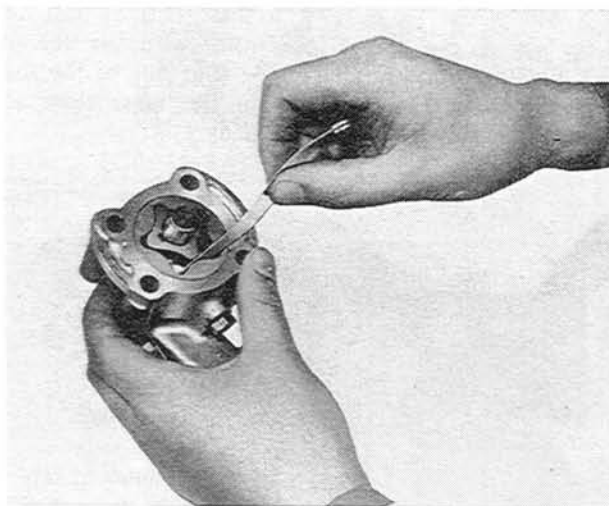

Fig. 2-4 Checking gap of rotors
1. Use a feeler gauge to check the clearance between the outer rotor and the inner rotor as shown in Fig. 2-4. The standard clearance should be 0.01 ~ 0.09 mm (0.0004 ~ 0.0035 in).